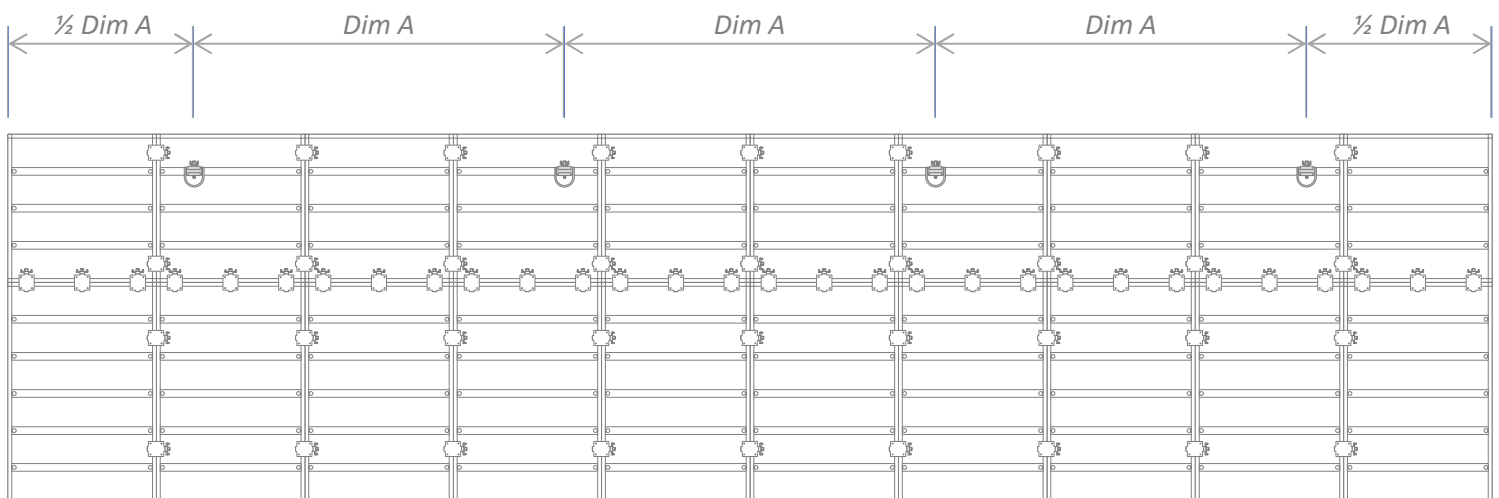

Figure 3. Personal Tie-Off Bracket attached to panel inner-rail
- The distance from the end of the gang to the first or last Personal Tie-Off Bracket is a maximum distance equal to half the average interior spacing (Figure 3).